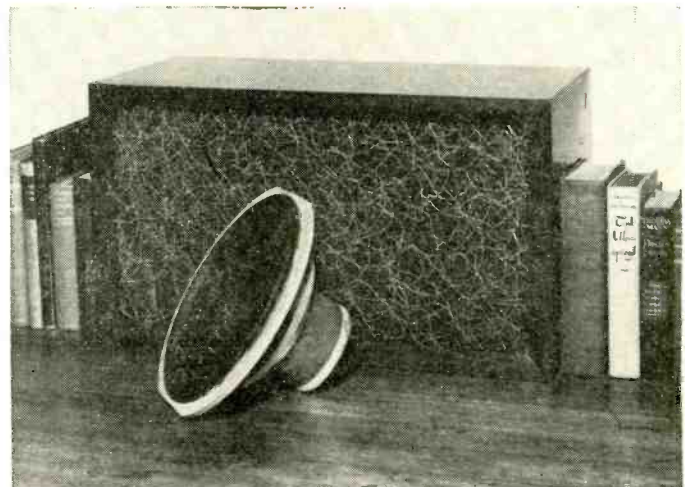

Fig. 1. Acoustic Research AR-1W low-frequency speaker system. The two-way system uses the same cabinet.
The commercial unit is made as a two-way system, using a 12-inch acoustic suspension woofer in combination with a conventional cone-type high-frequency speaker, and is also made as a woofer system for use with other high-frequency units. The system is illustrated in Fig. 1. It was decided to report on the model with the woofer alone for the following reasons: (1) The point of the article is to make a quantitative report on the capabilities of the acoustic suspension system, and (2) test procedures are simplified and made more reliable, thus better subject to accurate duplication by others. Variables such as radiation angle, microphone calibration at higher frequencies, and interference effects between the two speakers which may make microphone positioning critical, are largely eliminated. The performance of the high-frequency section will be only briefly summarized.